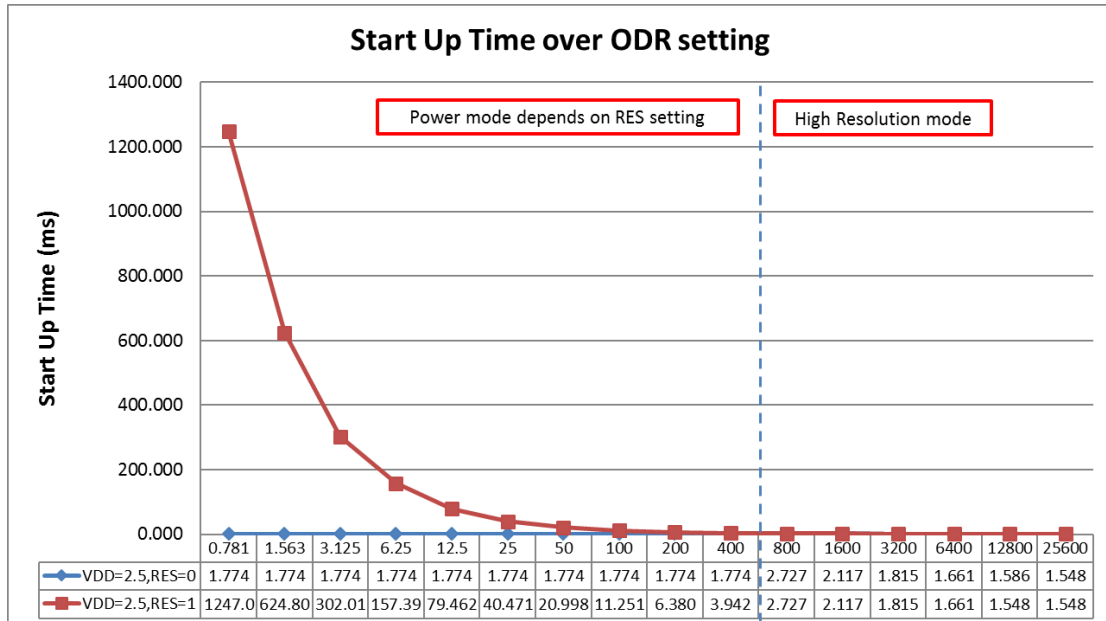

Figure 1: Start Up Time as a function of the Output Data Rate (ODR) and Power Mode Settings
3. Start up time is from PC1 set to valid outputs. Time varies with Output Data Rate (ODR) and power mode setting. See Figure 1 for details.